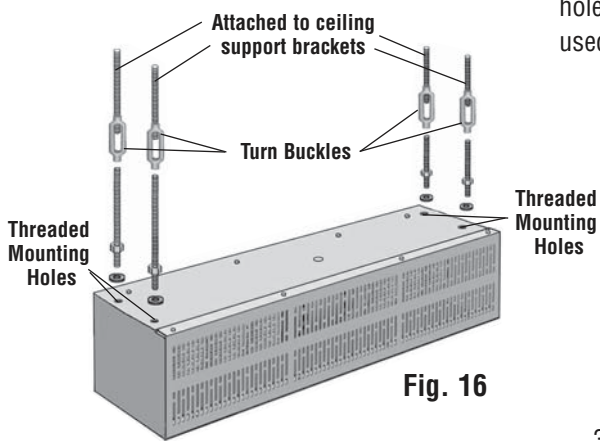

Fig. 16
1. Place the unit temporarily in position to take measurements for cutting the threaded rods. Take the size of the turn buckles into consideration. (See Fig. 16)